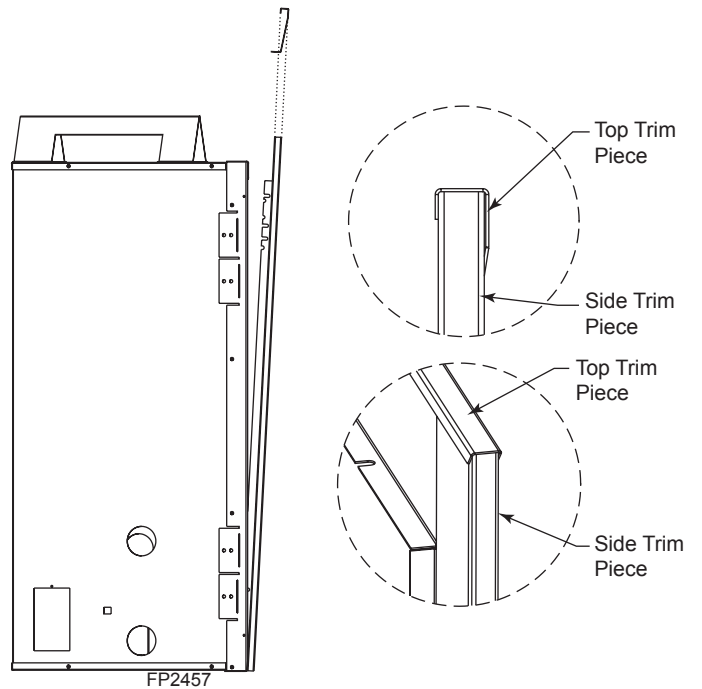

Figure 31
- Set left and right side piece of trim kit in place on unit. Lean the top of each piece away from the unit and towards you in order to install top trim kit piece. Top piece should fit with sides as shown. *Figure 31*